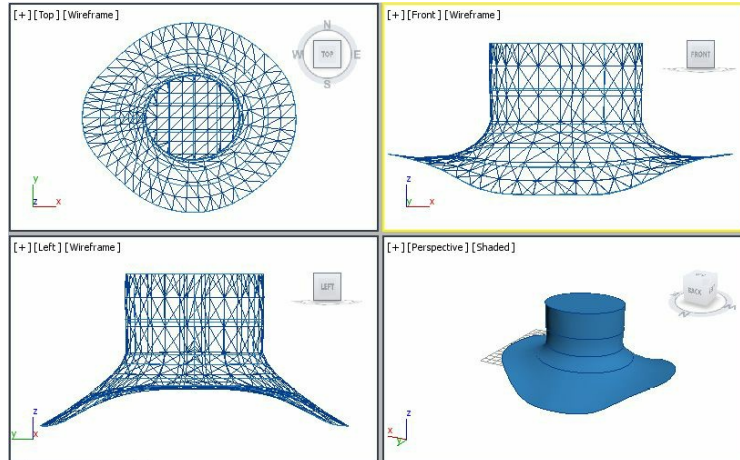

Figure 10-93 *The surface modified at the sub-object level*
10. Now, modify the surface using the control vertices and curves to get the required shape, as shown in Figure 10-93.